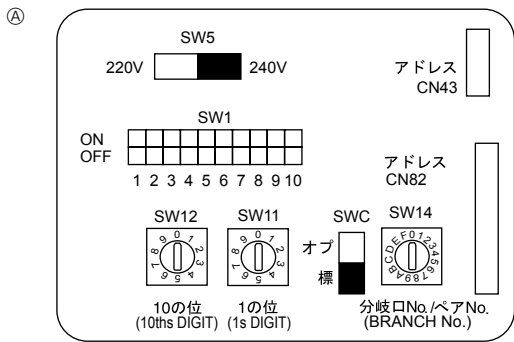

Fig. 4-4
- ① MA Remote controller
- ② M-NET Remote controller
- ④ Terminal block for indoor transmission cable
- ⑤ Terminal block for outdoor transmission cable
- ⑥ Remote controller
4.5. Setting addresses (Fig. 4-4)
- ① How to set addresses
- ② How to set branch numbers SW14 (Series R2 only)
- ④ Address board
4.6. Sensing room temperature with the built-in sensor in a remote controller (Fig. 4-4)